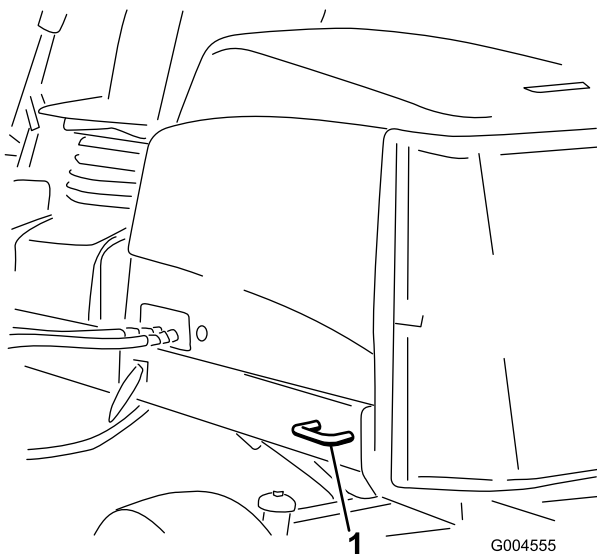

Figure 25
- Rear—each side of the machine on the rear frame (Figure 25).